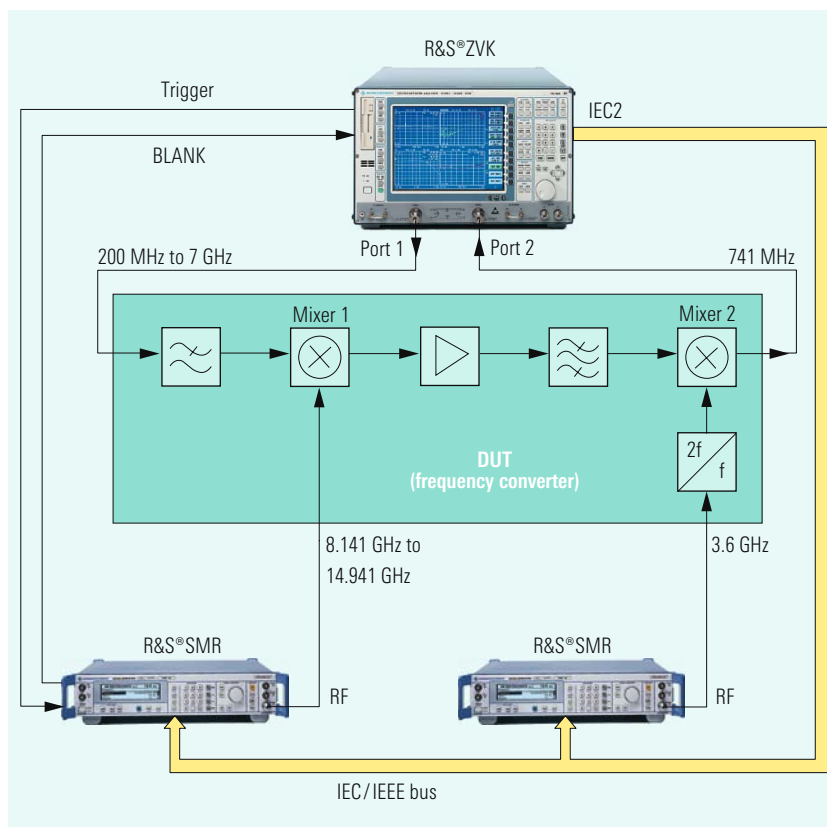

FIG 3 Measurement of a double frequency-converting receiver frontend using the R&S®SMR and R&S®ZVK.
- ▶ with the Vector Network Analyzers R&S®ZVR, ZVC, ZVM and ZVK which cover the frequency range up to 40 GHz, depending on the model. Measuring frequency-converting DUTs thus becomes child's play (FIG 3).
FIG 3 shows measurements on a frequency converter with an input range from 200 MHz to 7 GHz. The fixed intermediate frequency at the output is 741 MHz. This test setup allows you to determine the conversion gain versus the frequency, which is a standard measurement on receiving components. The frequency must be set as follows: